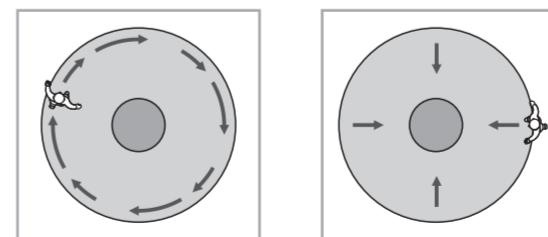

FIG.19
- Walk from outside across or toward to the detection coverage until LED and load turn on for 2sec (See FIG.19).